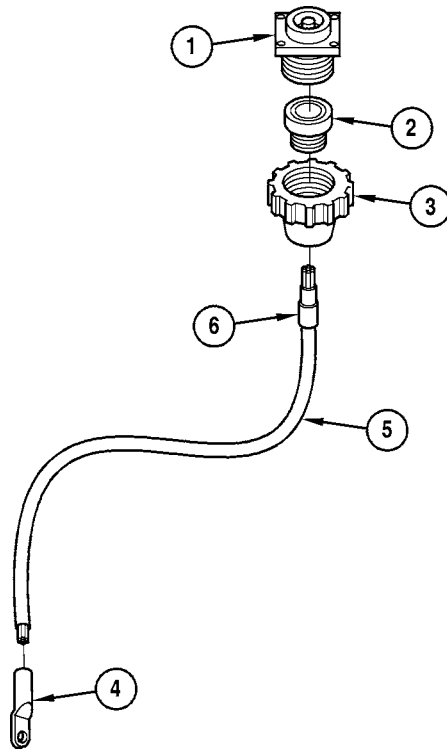

Figure 2-25. Starter Cable (M113A2/M548A1)
2. Connect AWG 1/0 electrical lead (5) measured in step 1, to receptacle connector (1-3).
3. Label leads (5), using band markers (6) as circuit 6.
4. Install lug terminal (4) on lead (5). See Figure 2-25.